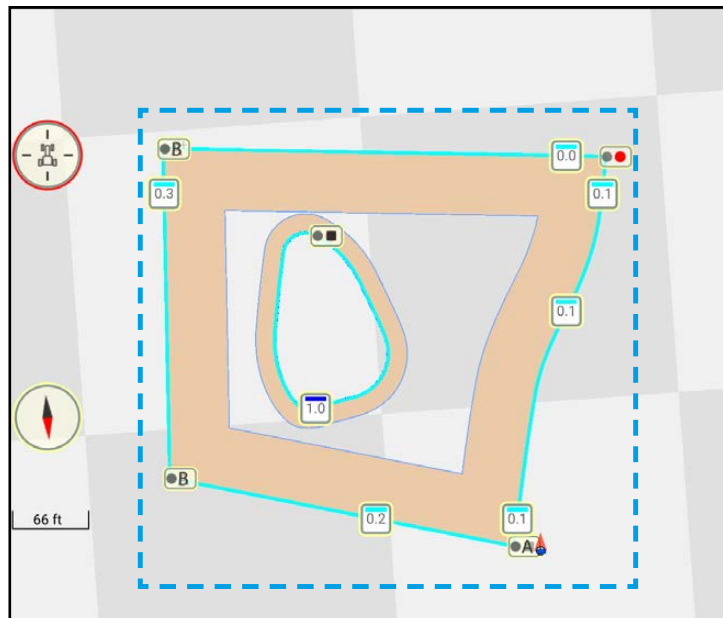

Fig. 49: Boundary lines closed and active
- Closed and active (see Fig. 49).